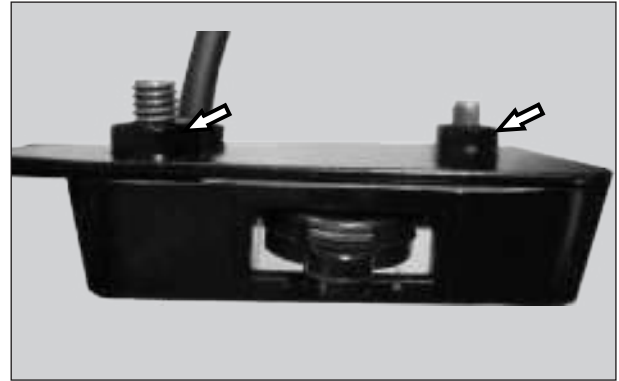

Fig. 9.26
- Loosen and tighten the 2 nos. CRPH screw (M6X12) mount the engine bay lamp along with bracket. (Fig. 9.26)